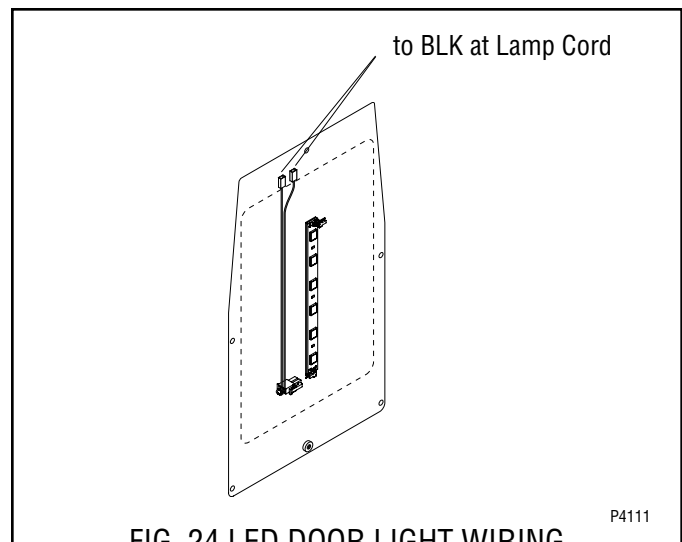

FIG. 24 LED DOOR LIGHT WIRING
8. Refer to Fig. 24 and reconnect wires to the LED board.